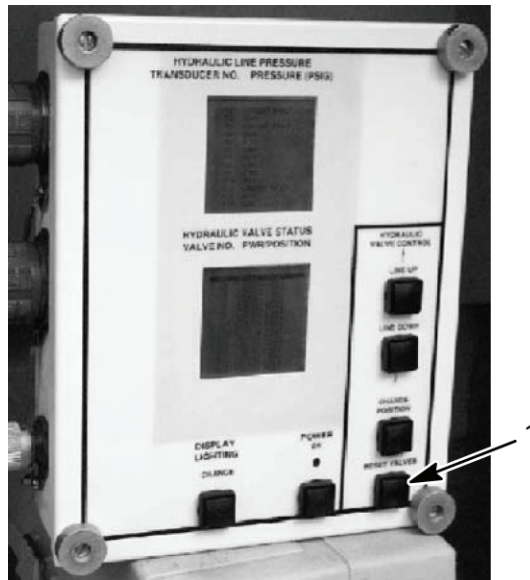

Figure 19. HDC Control Box
- Reset all HDC solenoid valves by selecting the RESET VALVES button (Figure 19, item 1) on the HDC control box.